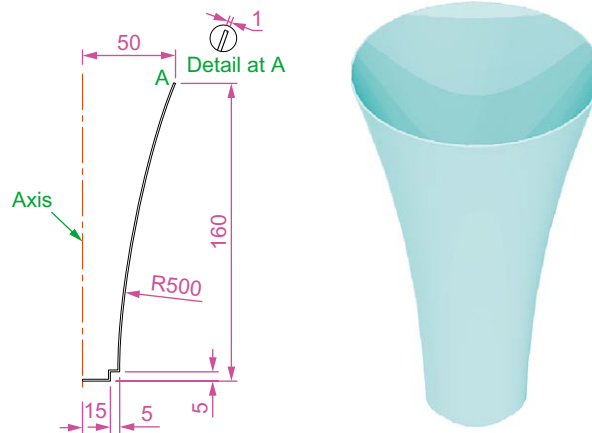

Fig. 18.19 Fourth example – 3D models
### Fourth example (Fig. 18.19)
1. **Front.** Construct the polyline – left-hand drawing of Fig. 18.19.
4. **Isometric.** Render – right-hand illustration of Fig. 18.19.